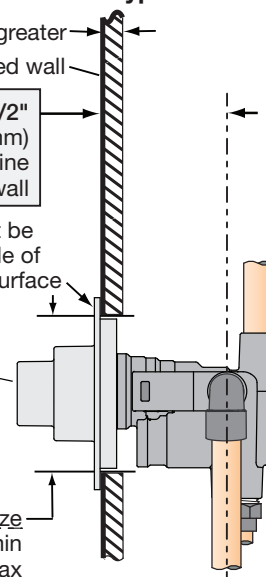

Figure 2 Mounting valve
- Consider whether to use mounting plate by reviewing figure 2 below.
- Reference figure 2 to determine whether shield is required.
Install valve through cutout hole in wall as specified in figure 2 below and dimension illustration on page 2.